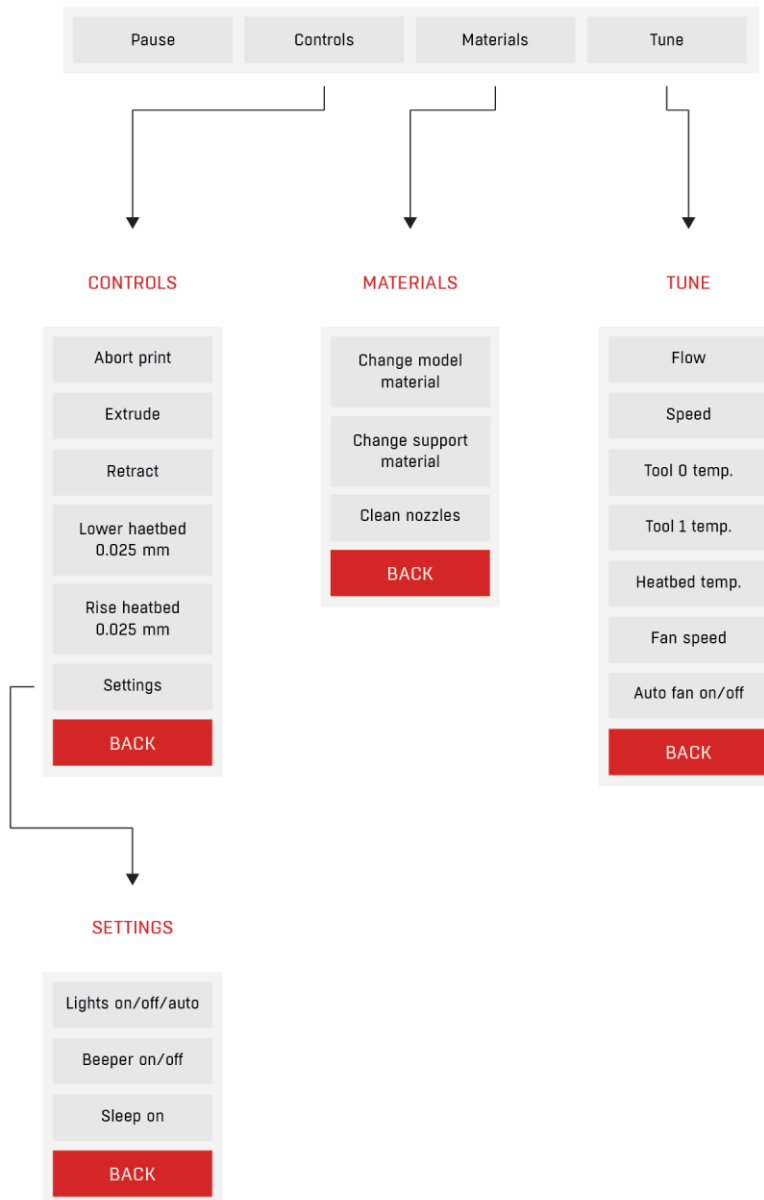

Fig. 35 Main menu structure in the working mode
- main menu in the working mode (fig. 35).